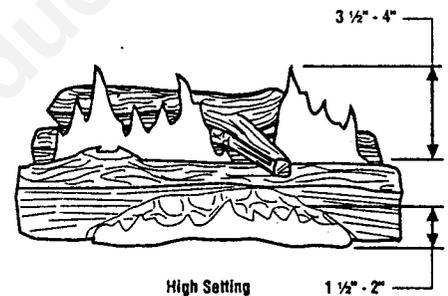

Figure 33
Step 8. Burner Adjustments – The JØTUL Classic 3 Direct Vent is equipped with a two stage (HI, LOW) gas control valve. This valve provides for easy flame height adjustment. To cycle the burner between the HI and LOW settings, rotate the HI/LOW knob, located in the center of the valve front face, clockwise and counterclockwise respectively. Flame height will increase approximately 2" to 2 1/2" when in the HI mode as referenced against the LOW mode. Flame height and appearance should be as shown in Figure 33. The following paragraphs detail flame appearance and adjustment. Make all adjustments as described with HI/LOW knob set to HI.
When returning to service, verify proper flame characteristics as described in Step 8, refer to Figure 33.